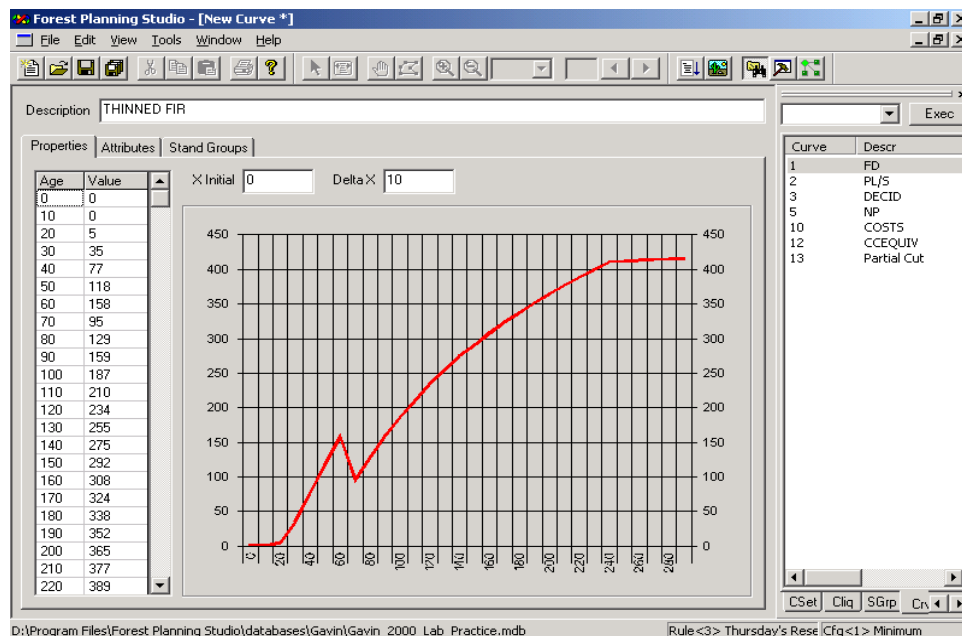

Figure 58: *thinned fir* volume age curve
- 12.3.3 Select *Execute SQL* and modify the syntax to match figure 58.